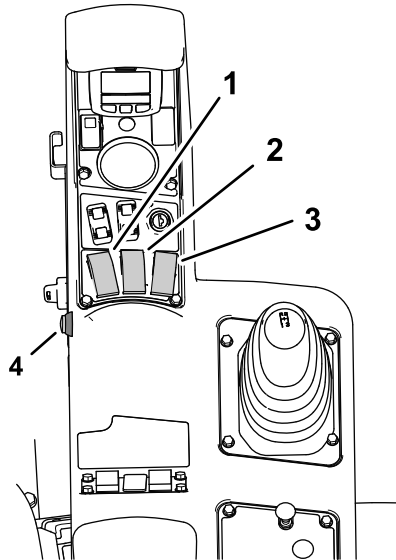
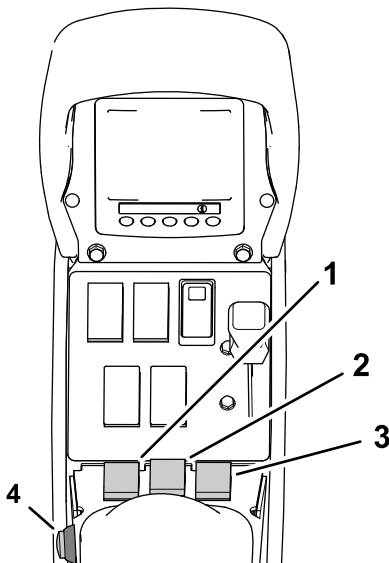

Figure 154
Figure 155
1. Set the 3 section switches (located in the control console of the machine) to the ON position (Figure 154 and Figure 155).
2. Press the master-section switch on the machine (Figure 154 or Figure 155).